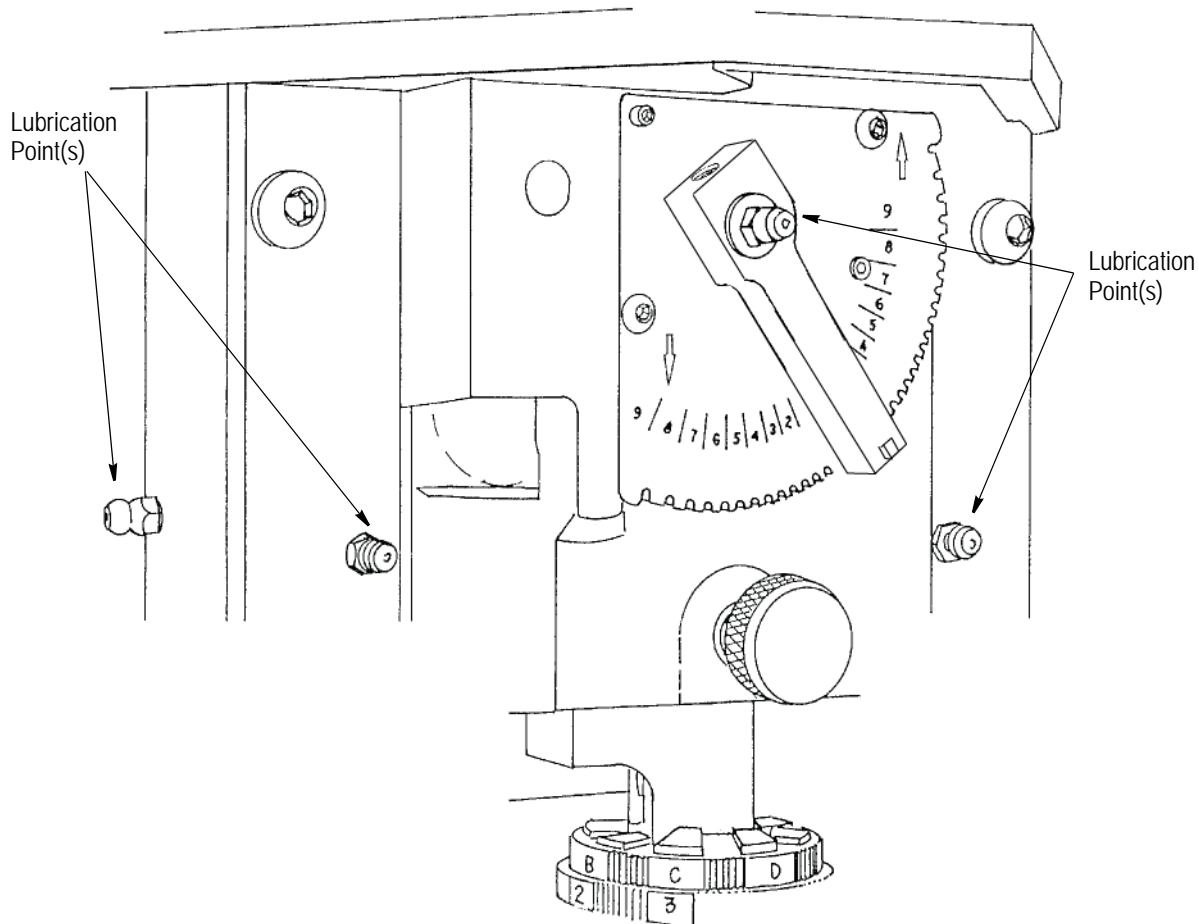

Figure 16
5.2. Lubrication (See Figure 16)